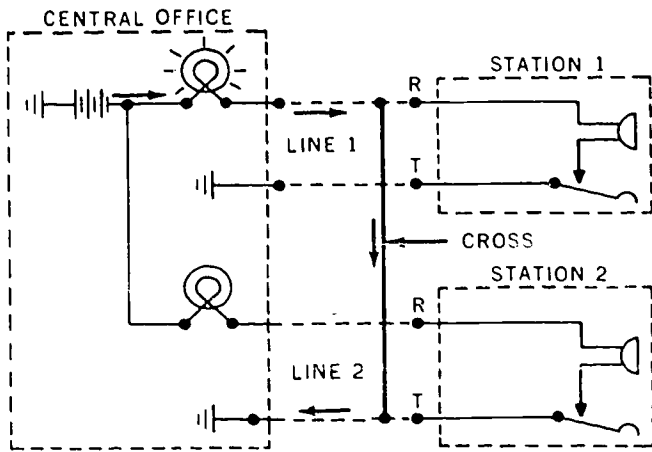
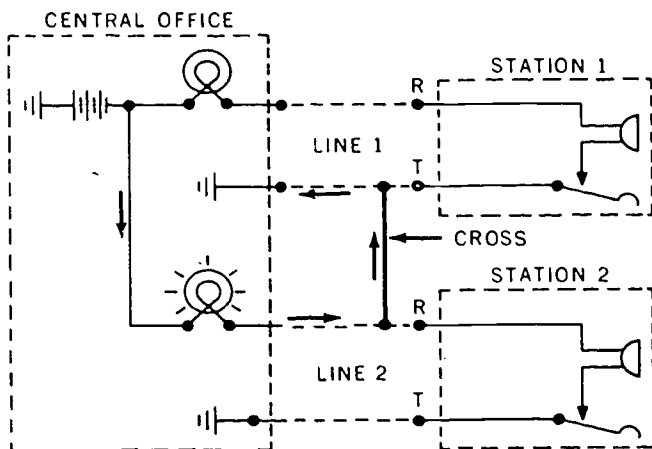

Figure 5-8. Ring-tip cross.
Figure 5-9. Tip-ring cross.
receive or transmit or can do so only with difficulty, and (3) crosstalk (talk from the other pair concerned) is heard if both lines are in operation at the same time. The exact effect on the telephone subset is determined by the location of the cross. Because of the permanent signal, the central office personnel would most likely report the trouble. The ring-tip cross is illustrated in figure 5-8 by the line and arrows which indicate a connection from the ring conductor of line 1 to the tip conductor of line 2. By looking at this illustration, you can see how this cross completes a circuit through the central office battery, lighting the signal lamp for line 1 in the central office.
b. Tip-ring. The tip-ring cross illustrated in figure 5-9, is very similar to the ring-tip cross. As a matter of fact, the only difference in the situation between the circuits illustrated in figures 5-8 and 5-9 is that the condition between the lines has been reversed. That is, if you were troubleshooting line 1 in figure 5-8, you would be dealing with a ring-tip cross, and if you were troubleshooting line 1 in figure 5-9, you would be dealing with a tip-ring cross. If the station 1 attendant for figure 5-9 had noted the trouble, crosstalk would most likely have been reported. This type of cross, however, would light the lamp in the central office for line 2. Therefore, the central